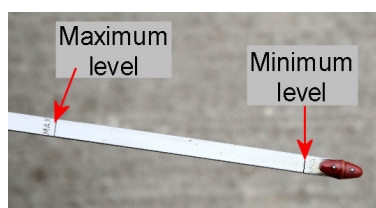

Fig 2-2 Dipstick levels
5. Check the oil level using the dipstick (*Fig 2-2*).